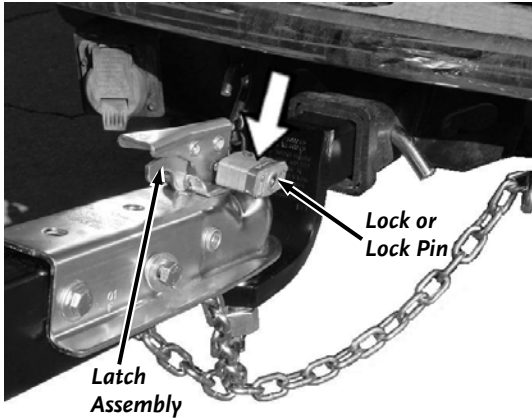

Figure 50
4. For extra safety and security, you may want to purchase a lock or lock pin to install into the latch assembly of the tow hitch assembly (Figure 50).